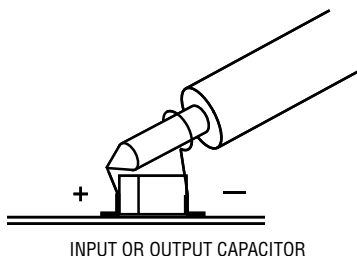

Figure 2. Proper Scope Probe Placement for Measuring Input or Output Ripple
**Note:** When measuring the input or output voltage ripples, care must be taken to avoid a long ground lead on the oscilloscope probe. Measure the input or output voltage ripple by touching the probe tip directly across the VIN (E1) and GND (E2), or VOUT1 (E7) and GND (E4) terminals. See Figure 2 for proper scope probe technique.